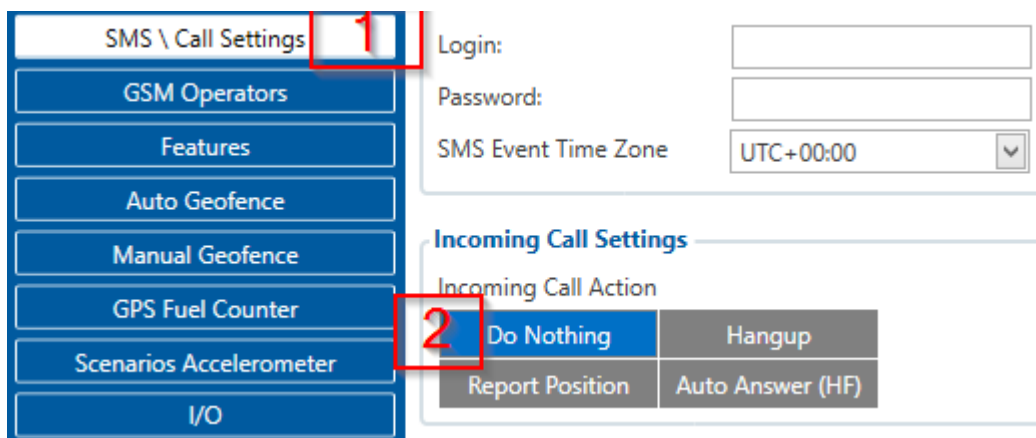

Figure 41 Incoming Call Action settings
- Go to “SMS \ Call Settings” in left menu and set “Incomming Call Action” to “Do Nothing” visible at Figure 41.